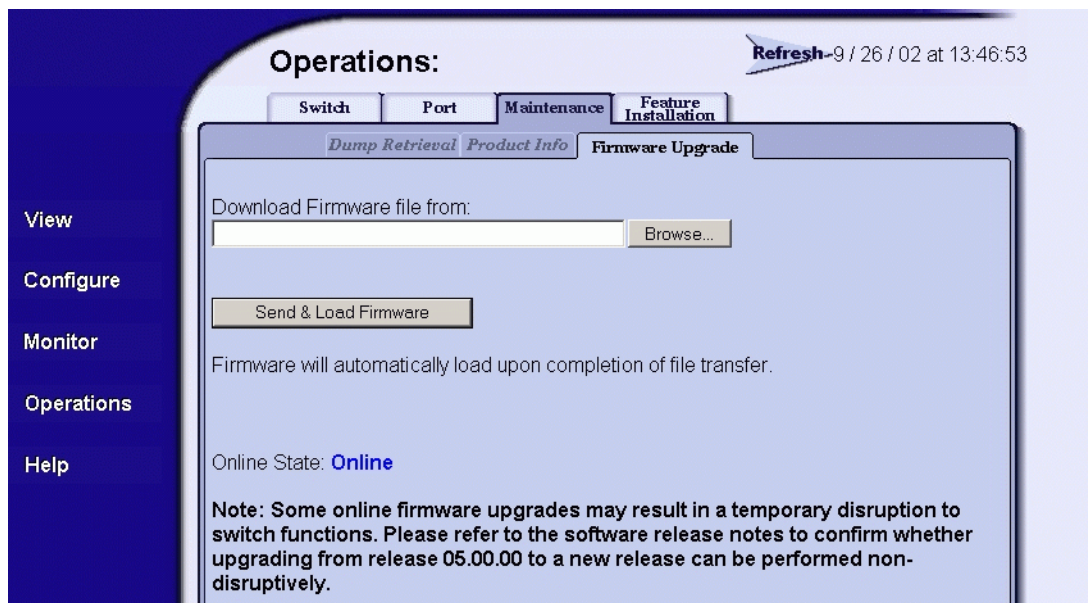

Figure 4-49 Operations Panel (Maintenance Page with Firmware Upgrade Tab)
2. Click the *Maintenance* and *Firmware Upgrade* tabs. The *Maintenance* page displays with the *Firmware Upgrade* tab selected (Figure 4-49).